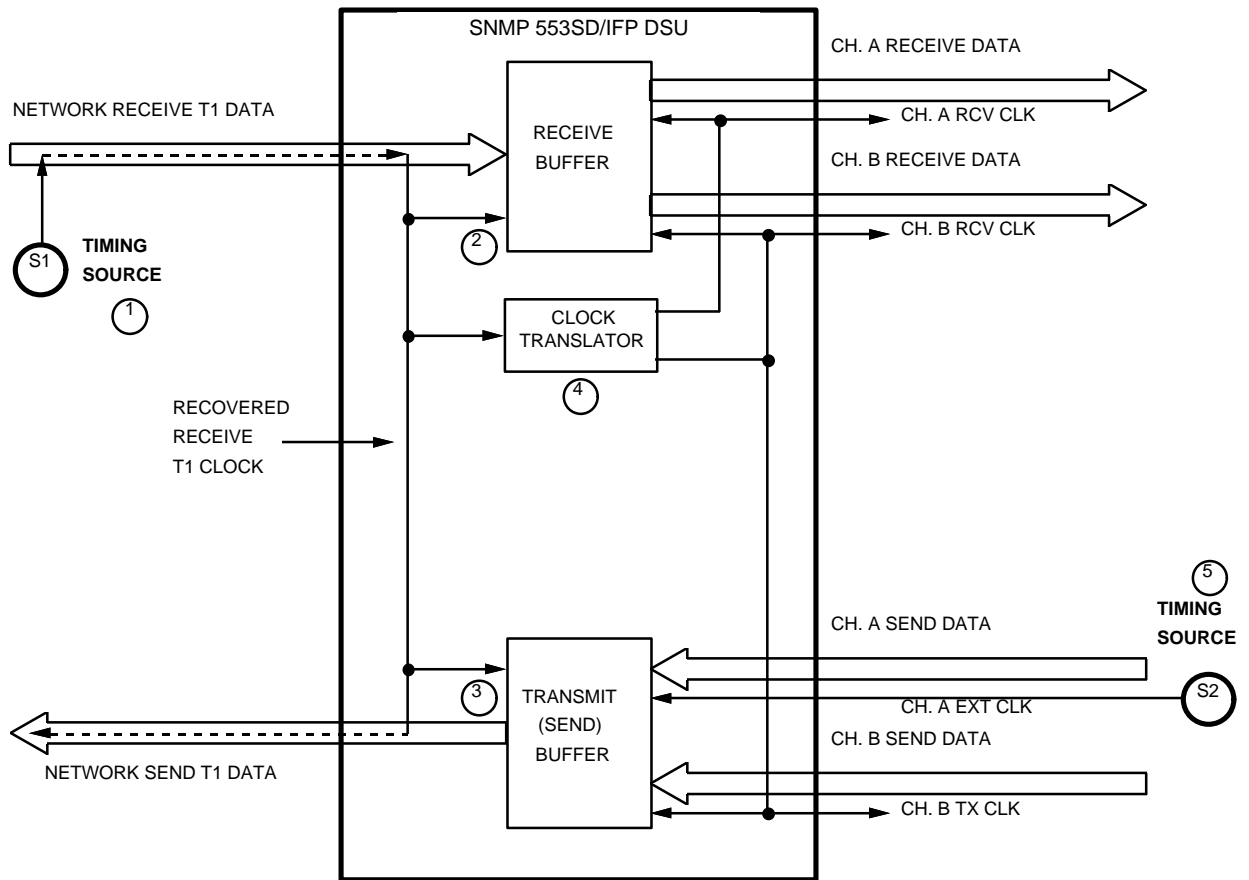

Figure C-5 Channel A Split Timing
Channel Split Timing includes Channel A Split Timing, Channel B Split Timing, and Channel A/B Split Timing. Channel A Split Timing, illustrated in *Figure C-5*, is a combination of Slave Timing and Channel A Timing, and it utilizes two clock sources. As in Slave Timing, the network (or a device at the remote end) provides one timing source (1). The SNMP 553SD/IFP DSU recovers the receive T1 clock from the network receive T1 data and uses it to clock T1 data into the receive buffer (2) and to provide the send timing source for T1 data output from the transmit buffer (3) to the network. The SNMP 553SD/IFP DSU also translates (4) the receive T1 clock to provide the channel transmit clock signal for Channel B and the receive clock signals for both channels, on the appropriate interface leads for each channel. As in Channel A Timing, the customer equipment on Channel A provides the other timing source, its own channel transmit clock signal (5) on the appropriate interface lead, but the DSU uses it for nothing else.